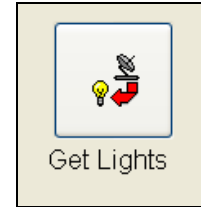

Figure 18.0.3
3. From the List of icons to the right of the **“Speed Communications”** screen select the **Get Lights** Icon (Figure 18.0.3).